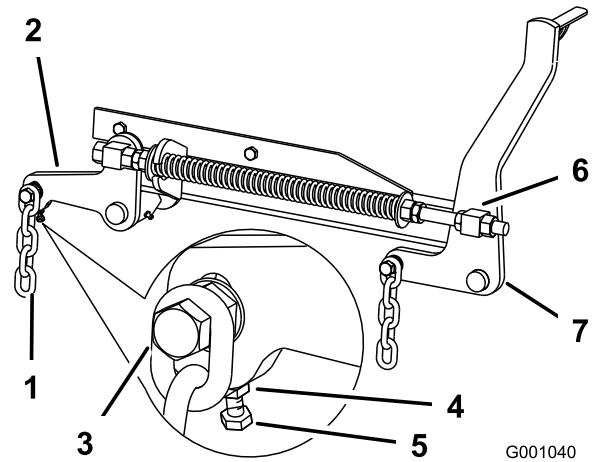

Figure 93
8. If the measurements at positions **B** or **C** are not correct, loosen the bolt attaching the rear chain to the rear-support arm (Figure 93).
8. Loosen the jam nut under the rear-support arm and adjust the adjustment bolt to get a measurement of 80 to 83 mm (3-1/8 to 3-1/4 inches); refer to Figure 93.
7. Loosen the front swivel jam nuts, at the front of the right and left swivels, approximately 13 mm (1/2 inch) (Figure 93).
8. Adjust the lift nuts on both the left and the right side of the machine to achieve 6 to 10 mm (1/4 to 3/8 inch) lower in front at **A** than in the rear at **B** (Figure 93).